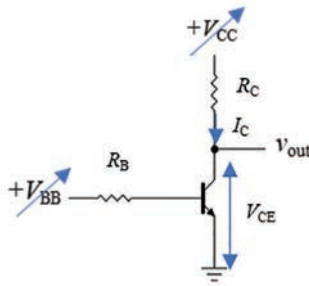

Figure 4.13 Generate collector curves
- Collector curves can be generated by using a circuit shown in Figure 4.13 (both V_{BB} and V_{CC} are adjustable source voltages).